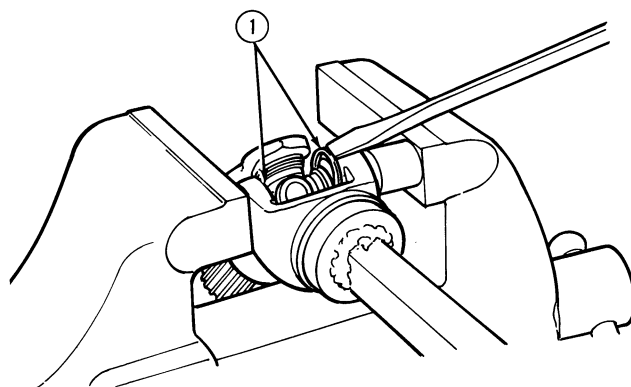

Figure 6
3. Remove the snap rings (1), Figure 6, that hold the bearing cups in the yoke. The snap rings may be inside the yoke (as shown) or on the outside depending on the supplier.